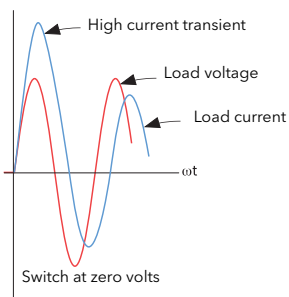

Figure 86 Delayed trigger definition
- Delayed Trigger** Appears only if Mode = Burst, Soft Start = Off, and Load Type = TxFormer. Delayed Trigger specifies the triggering delay, in phase angle, when delivering power into a transformer load. Used to minimise inrush current. the value is configurable between 0 and 90 degrees inclusive (Figures 86).